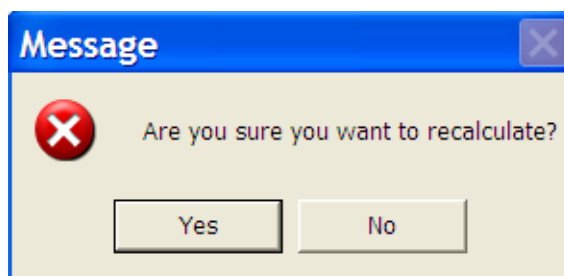

Figure 10-19: Message – Are you sure you want to recalculate?
3. When all wells to be rejected have been marked as such, on the toolbar, choose **Calculate**. Message appears (Figure 10-19).
3. When all wells to be restored have been marked as such, on the toolbar, choose **Calculate**. Message appears (Figure 10-19).